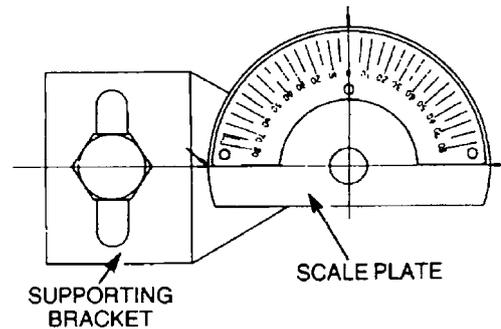

Figure 115 Aligning the Adjusting Device Match Marks
- c.** Position the governor adjusting device (Table 3, Serial 34) over the control lever, attach the adjusting device support bracket to the test stand and align the mark on the supporting bracket with one of the match marks on the scale plate (Figure 115).